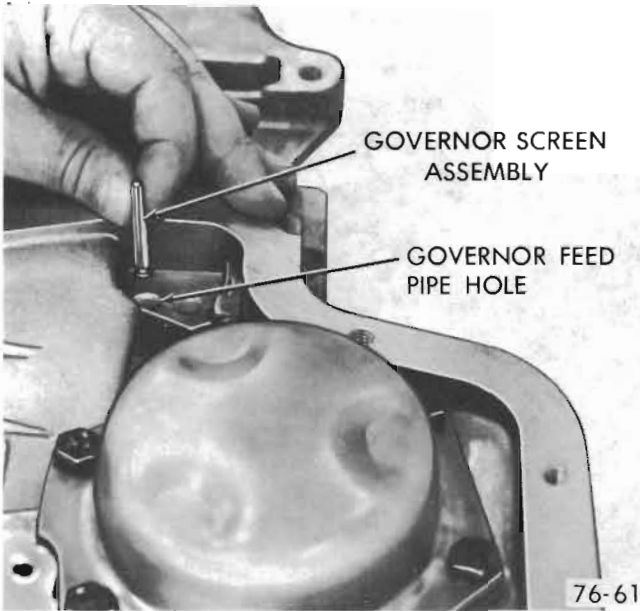

Figure 76-61
5. Remove governor screen assembly from governor feed pipe in case or from end of governor feed pipe. See Figure 76-61. Clean screen in clean solvent and air dry.